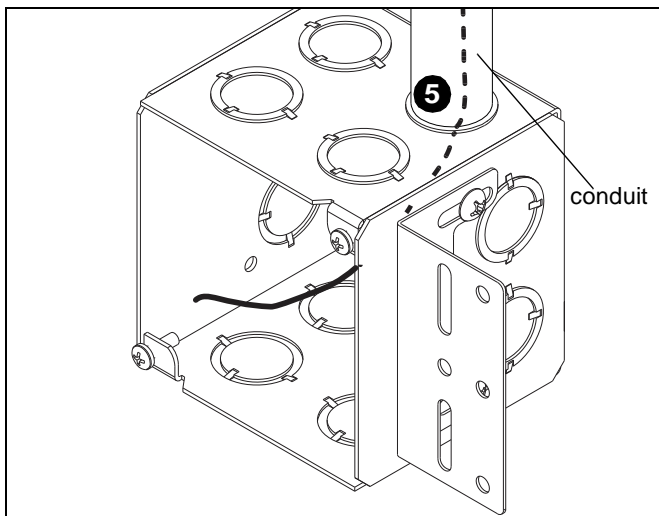

**Figure 10**
3. Use two #12-24 x 3/8" Phillips tapping screws (F) to secure new work clip (E) to outside of outlet box (A). (See Figure 10)